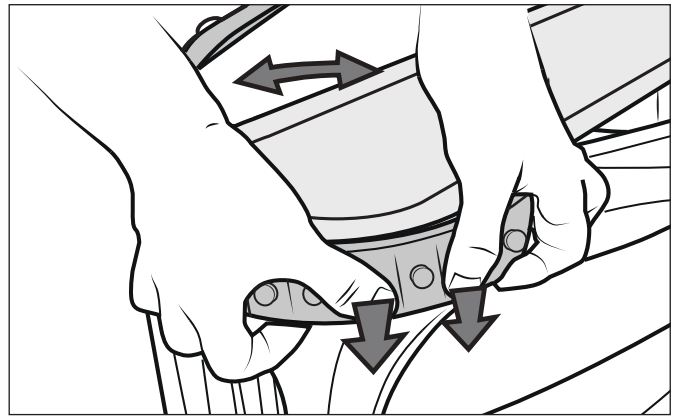

Figure 30. Push the Track into Place on the Wheel
6. Push and position the rib of the inner side of the track in the groove of the rear wheel (Figure 30). If needed, turn the wheel gently to help with installation.